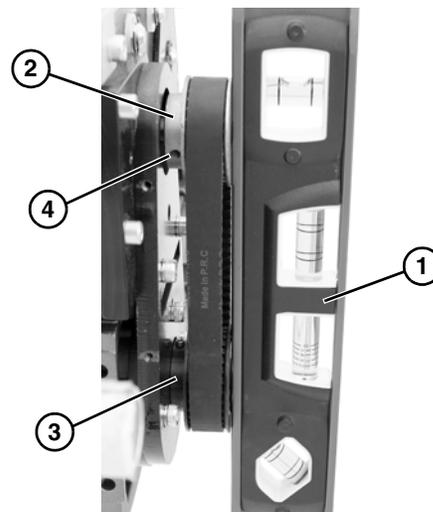

Figure 9
7. Using a straight edge (**Figure 9, item 1**), align driven pulley (**Figure 9, item 2**) with drive pulley (**Figure 9, item 3**). Tighten driven pulley set screws (**Figure 9, item 4**).